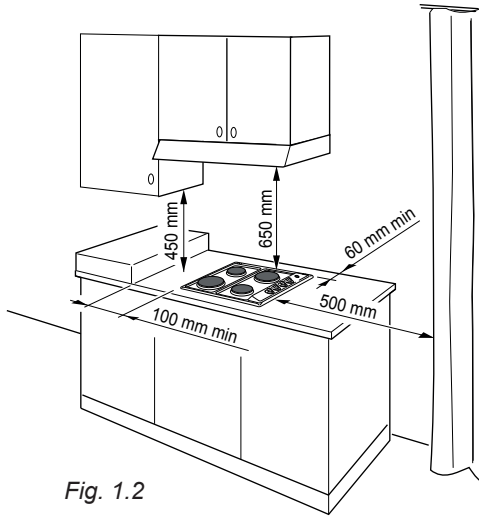

Fig. 1.2
- there must be a distance of at least 650 mm between the hob and any wall cupboard or extractor hood positioned immediately above (see fig. 1.2);